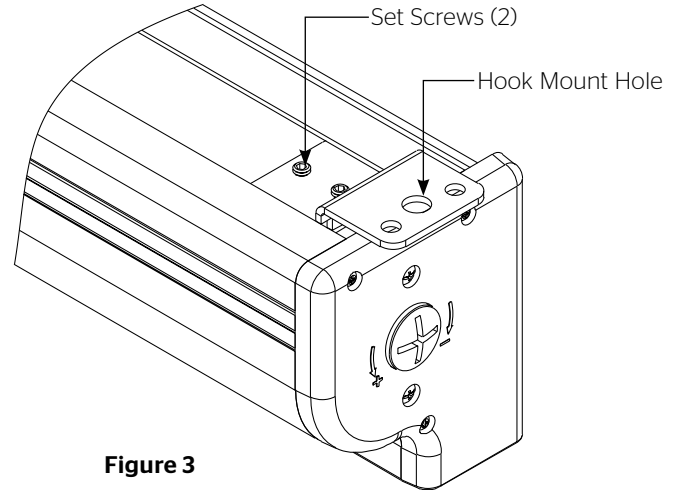

Figure 3
3. The top of the screen case has a channel that the ceiling hook brackets slide into. The brackets can be attached anywhere within 12" of the end of the case. Loosen the set screws on the brackets and slide the brackets to the desired location. Lock the brackets in place by tightening two set screws. Refer to Figure 3.